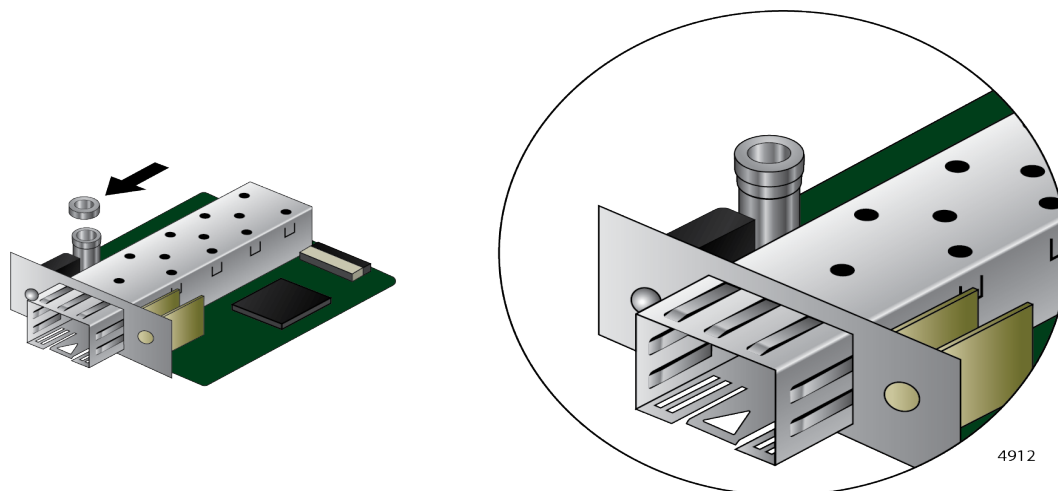

Figure 9. Attaching the SFP Board to the Chassis
10. While the SFP board is in place in the system, slide the spacer in between the edge of the chassis and the top of the mounting standoff as shown in Figure 9.